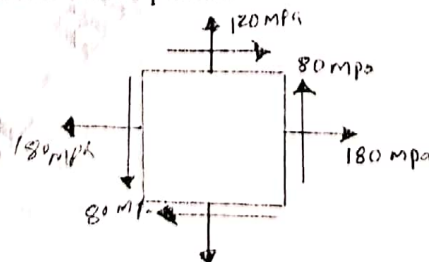

Fig.Q3(b)
- State of stress at a point in a strained material is as shown in Fig.Q3(b). Determine: